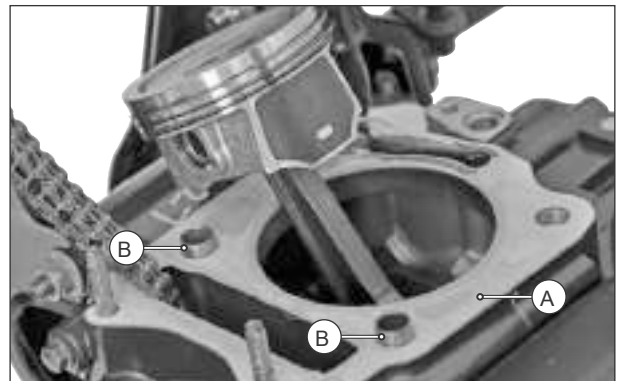

Fig. 3.82
- Remove the gasket cylinder (A) and tubular dowel (B) (2 nos). (Fig. 3.82)